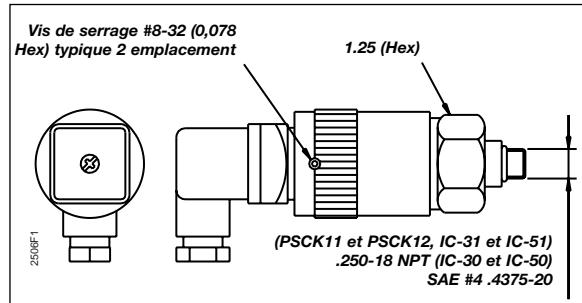

Figure 1
1. To adjust pressure setting, first loosen set screws on the adjustment sleeve. (See Figure 1.) Secure hex body with open end wrench. Turn adjustment sleeve by hand clockwise to increase or counterclockwise to decrease set point.